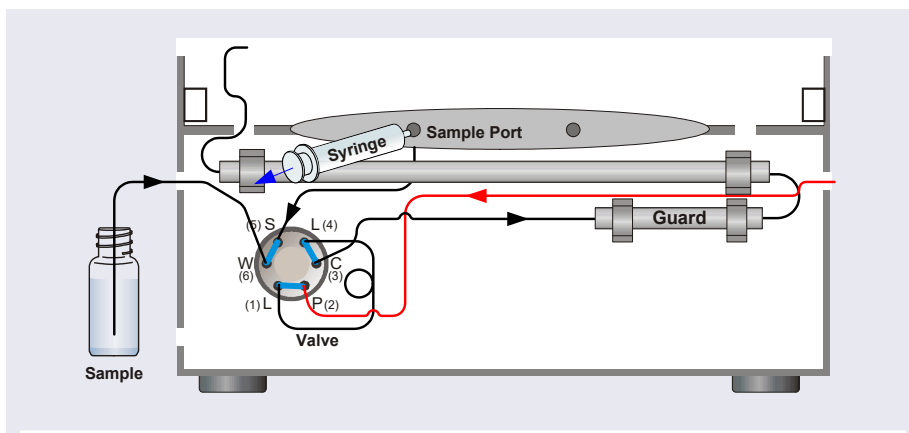

Figure 5-2. Loading Sample with a Vacuum Syringe (Pull Method)
2. Disconnect the waste line from the injection valve and replace it with a 25 to 30 cm (10 to 12 in) piece of PEEK or PTFE (polytetrafluoroethylene) tubing (see Figure 5-2).
5. Insert a 5 cc syringe into the sample loading port on the DC front door (see Figure 5-2) and pull out the plunger to draw the sample into the injection valve.